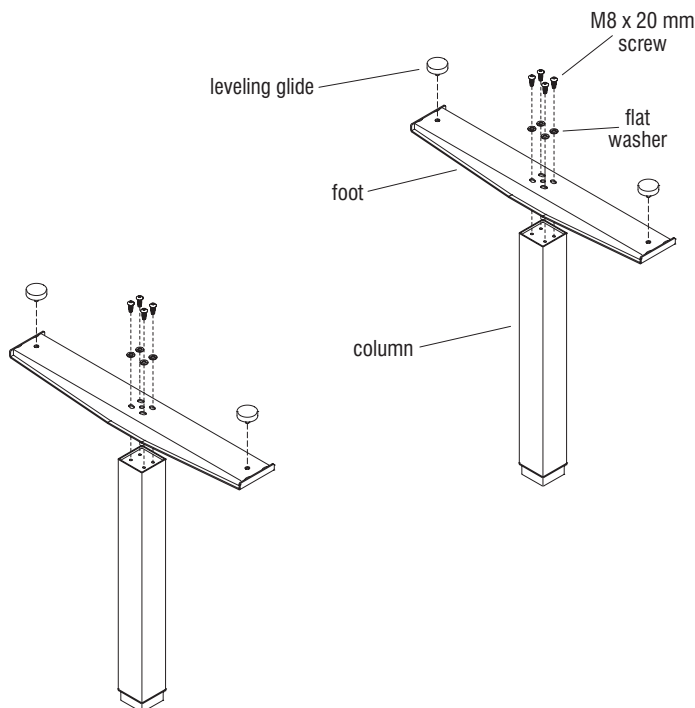

Figure 1
Note: When tightening the M8 screws, first twist in all four screws "finger tight", then tighten the screws one quarter turn at a time using a diagonal tightening pattern as shown in Detail A. Repeat the diagonal pattern until all four screws are tight (Figure 1 & Detail A).
1. Set the column on end with the smaller (inner) square tube on the floor. The threaded holes visible on the end of the column will be in a rectangular (not square) pattern (Figure 1).
2. Place the foot over the column end so the column fits into the square hole in the foot. The slotted holes in the foot should line up with the four holes in the column end. If not the foot needs to be removed and repositioned at 90 degrees (Figure 1).
3. Attach the foot using four M8 x 20 mm screws and four 8 mm flat washers, tightening each screw one quarter turn at a time in a diagonal pattern until all four screws are tight (Figure 1 & Detail A).
4. Thread leveling glides into the holes at the ends of the foot (Figure 1).
5. Repeat steps 1 through 4 for the second foot and column (Figure 1).